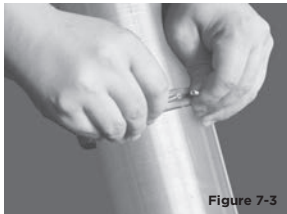

Figure 7-3
4. Attach the outer circlip (Figure 7-3).